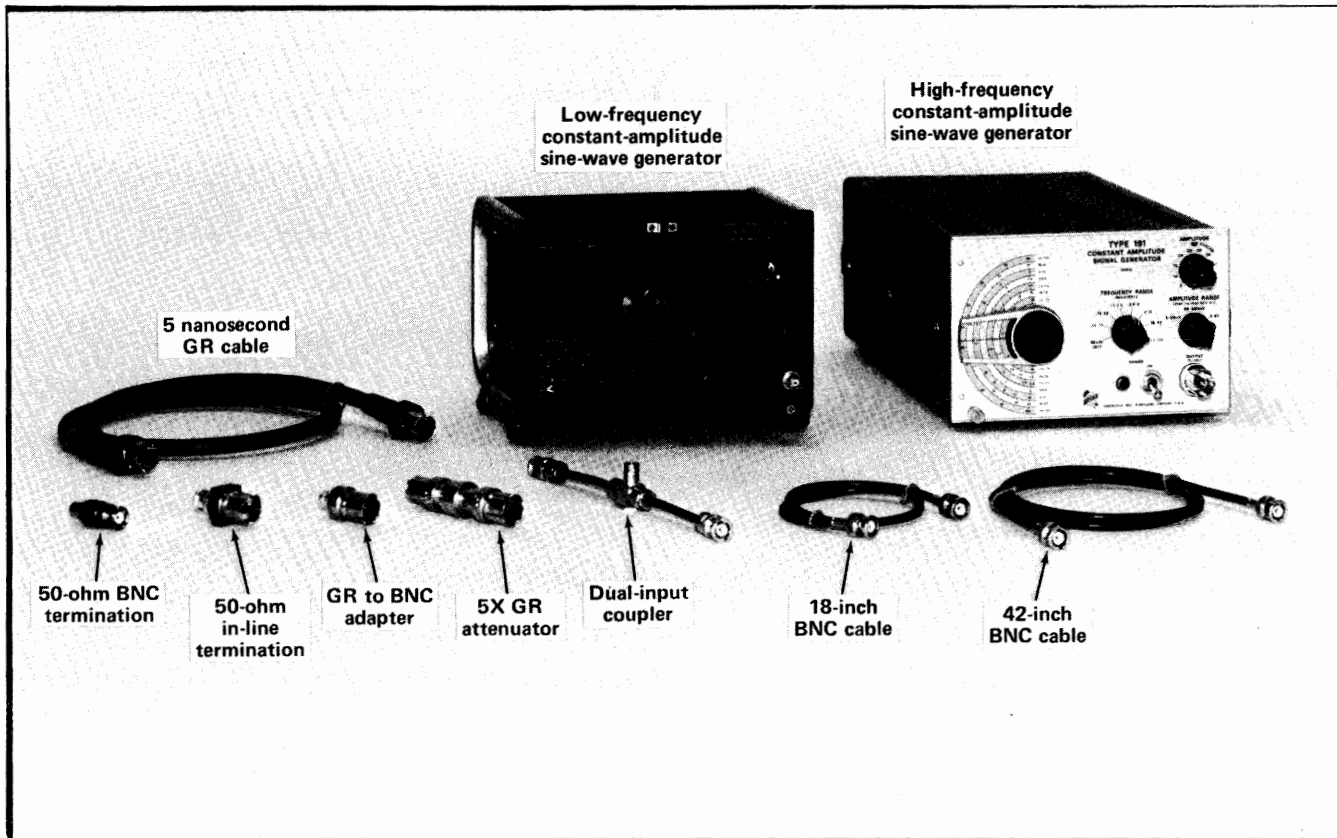

Fig. 5-18. Test equipment required for steps 25 through 40.
a. Test equipment required for steps 25 through 40 is shown in Fig. 5-18.